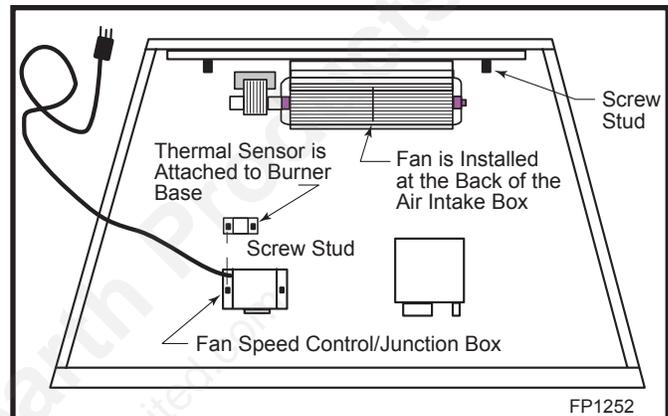

Fig. 5 Fan location.
5. Remove the fan mounting nuts (2 nuts). (Fig. 5)